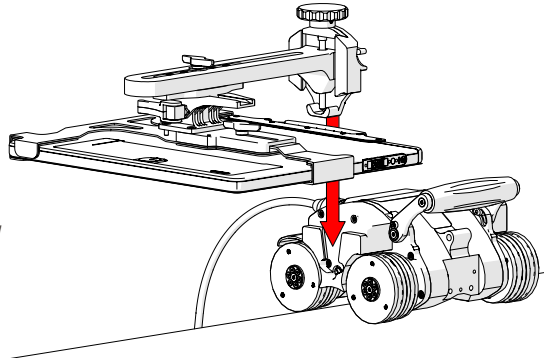

Fig. 84 - Mount detector bracket to the magnetic crawler
2. Mount the detector bracket (Fig. 84) to the crawler (see “Mounting Detector Bracket to Crawler” on page 28).